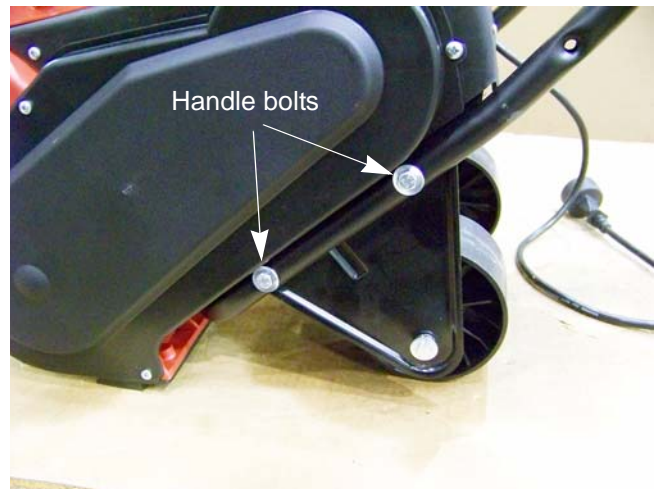

Figure 4.31
4. Remove the nuts and bolts that hold the lower handle to the left side panels using a pair of 10mm wrenches. See Figure 4.31.